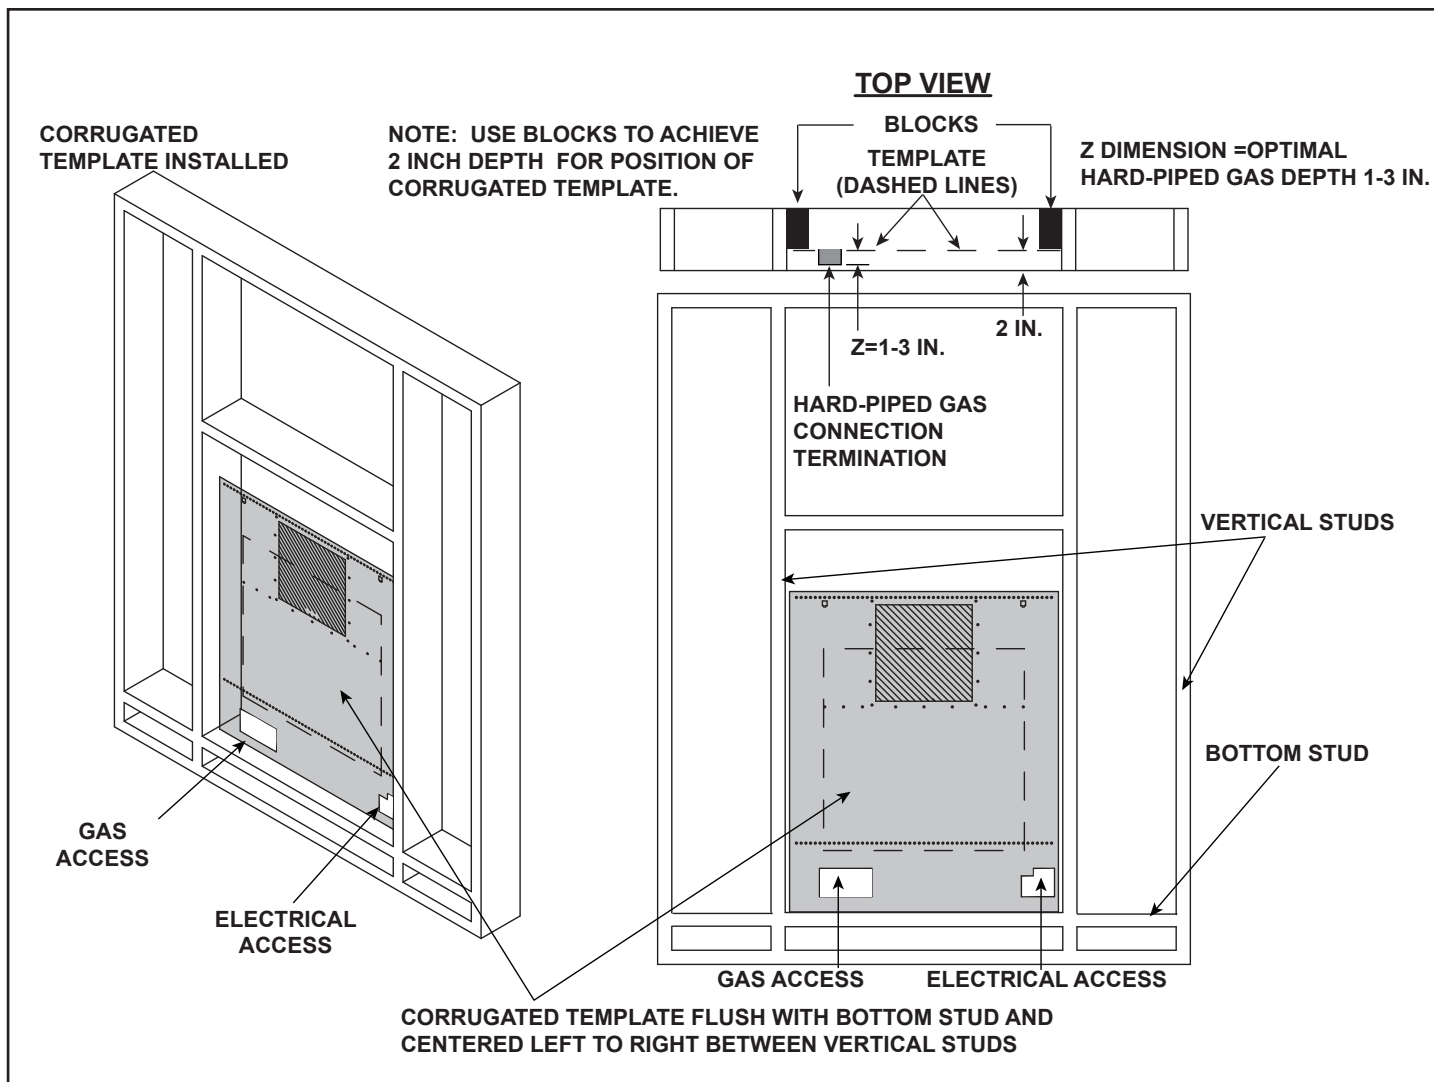

Figure 2. In-Wall with Corrugated Template
2. A Corrugated Template may be used to simplify the installation process. Contact your dealer or see Service Parts section in Owner's manual to order. Using the template for installations of the REVO/ION will help when locating the gas and electrical connections for the appliance. Install the corrugated template as shown in Figure 2. Use blocks to position the corrugated template in regards to depth.
**Note:** Hard-piped gas connections must be terminated with a specific "Z" dimension depth. See references to "Z" dimension in Figure 2. Terminating the Hard-piped gas connection with the proper "Z" dimension will simplify the process of connecting the gas to the appliance.